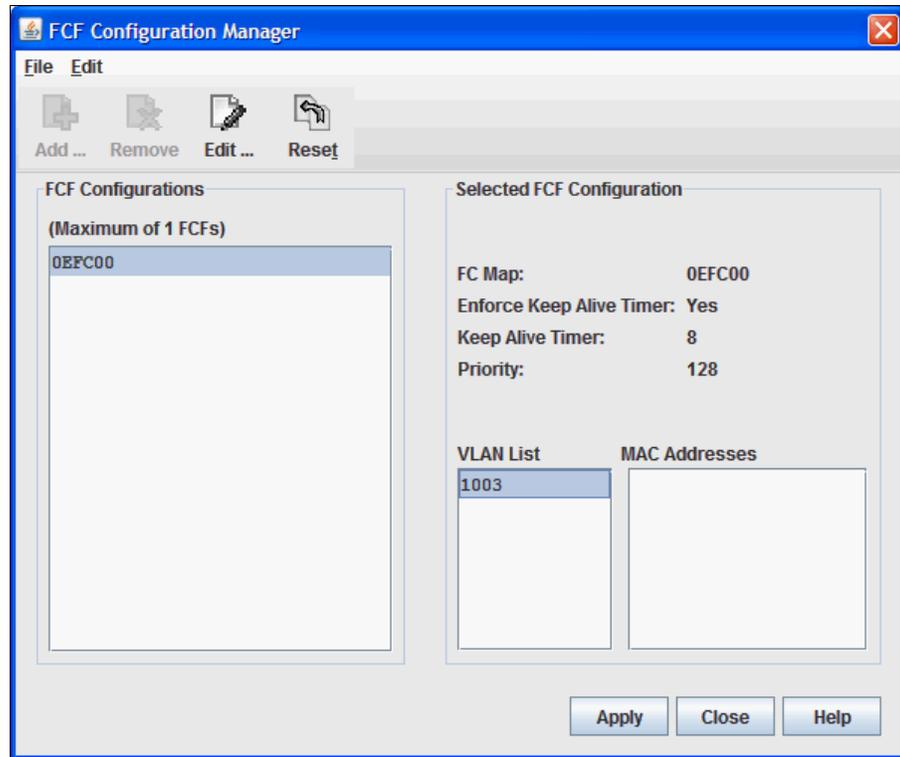

Figure 6-25 Virtual Fabric Extension Module FCF Configuration Manager
5. In the FCF Configuration Manager window (Figure 6-25), in the VLAN List box, change the FCoE mapping to VLAN 1003.